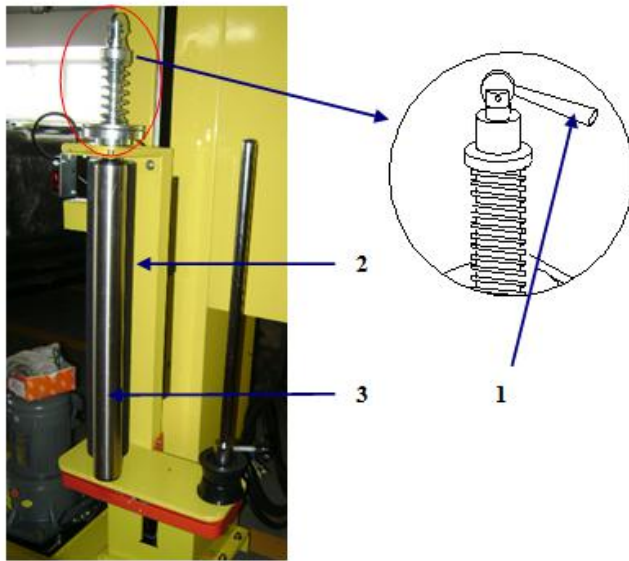

FIG 2-25
- Adjust the anti-stretch roller for an appropriate retarding force, push down the handle of the eccentric wheel (1);
- Pull up the handle of the eccentric wheel, and pull out the film from the film shaft → make it bypass the anti-stretch roller (2) → then bypass the transition roller (3) → apply the film on the object to be wrapped, then move down the handle of the eccentric wheel. See FIGs 2-25 and 2-26.